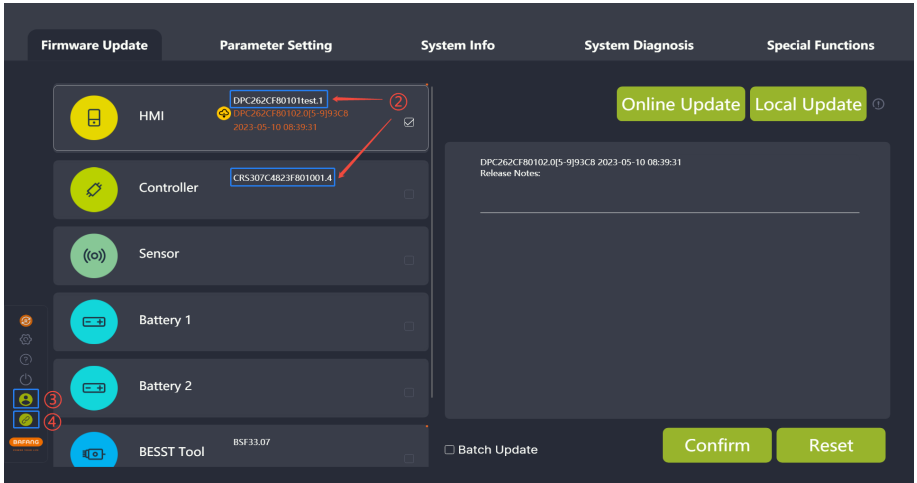

Fig 3-2 Component inspection
2. The system simultaneously initiates a “Global Read,” gathering information from each component. It then displays the information for connected components within the “Firmware Upgrade,” “System Information,” and “System Diagnostics” modules (Figure 3-2).